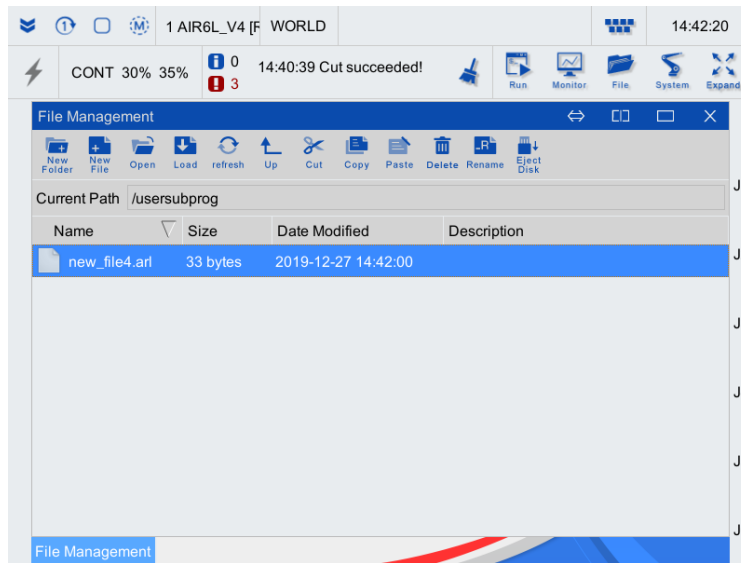

Fig. 5-1 "File Management" interface
- Step 1. Click "File"-> "File Management" on the main interface, enter the "File Management" interface and click "New" to create an .arl program, as shown in Fig. 5-1.